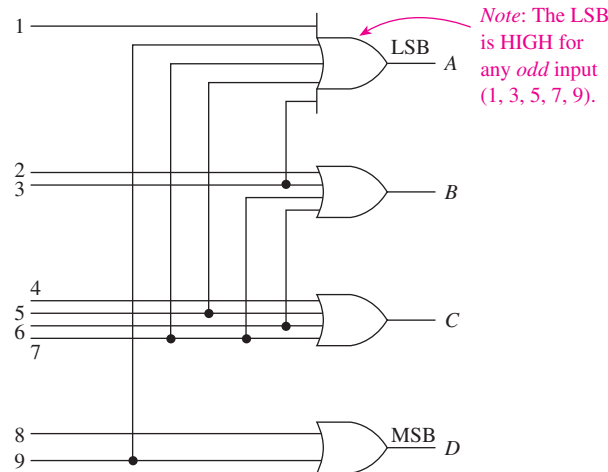

Figure 8–23 Basic decimal-to-BCD encoder.
The 74147 operates similarly to our basic design from Figure 8–23 except for two major differences:
1. The inputs *and* outputs are all active-LOW [see the bubbles on the logic symbol, Figure 8–24(a)].
2. The 74147 is a *priority* encoder, which means that if more than one decimal number is input, the highest numeric input has *priority* and will be encoded to the output [see the function table, Figure 8–24(b)]. For example, looking at the second line in the function table, if \bar{I}_9 is LOW (decimal 9), all other inputs are don't care (could be HIGH *or* LOW), and the BCD output is 0110 (active-LOW BCD-9).